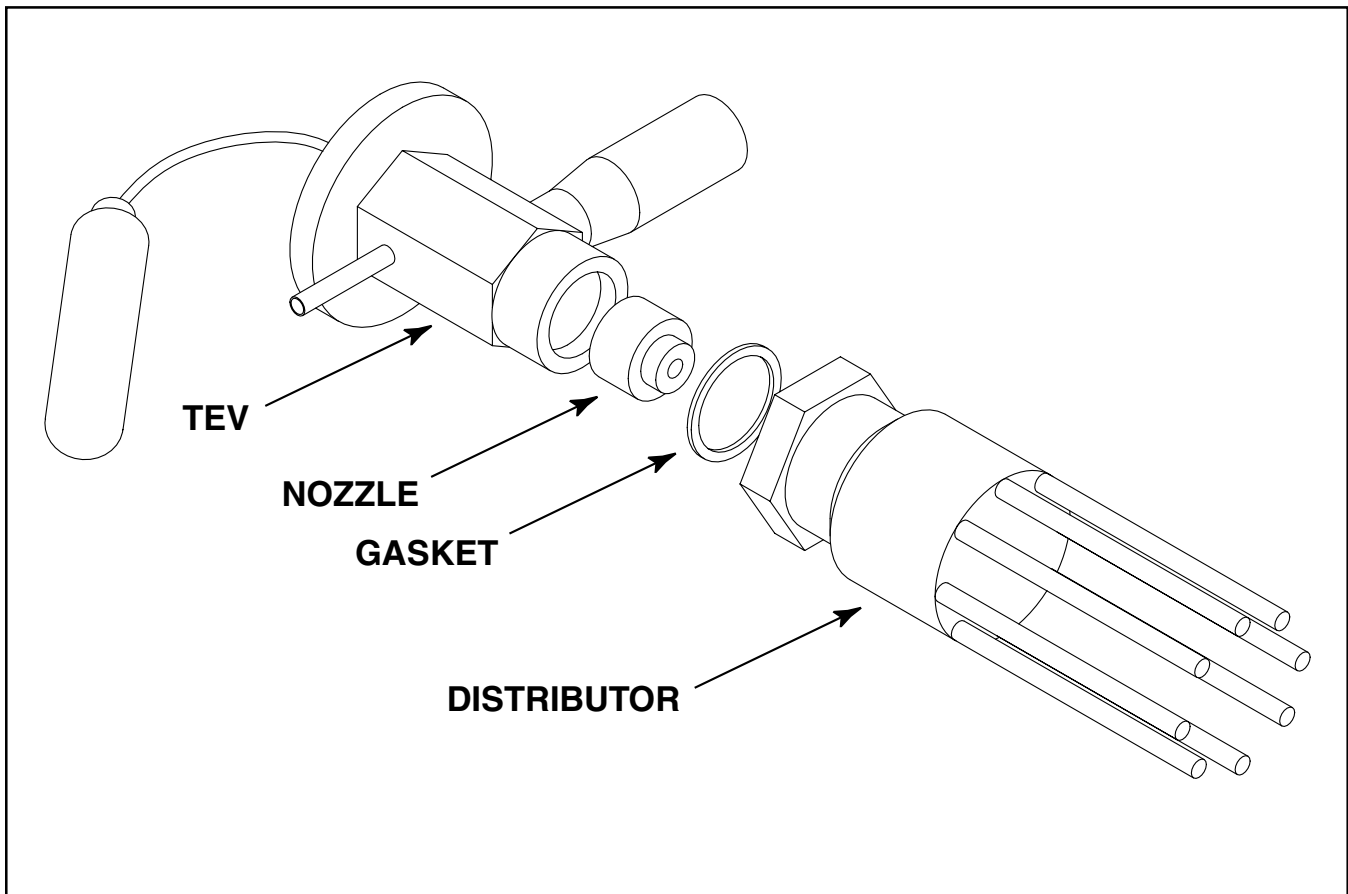

Figure 1. Component Orientation
1. Install new gasket and nozzle into distributor assembly. See Figure 1.